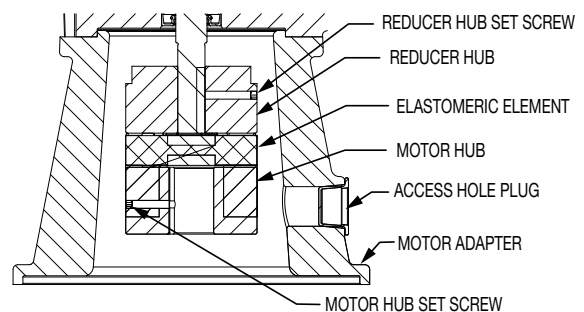
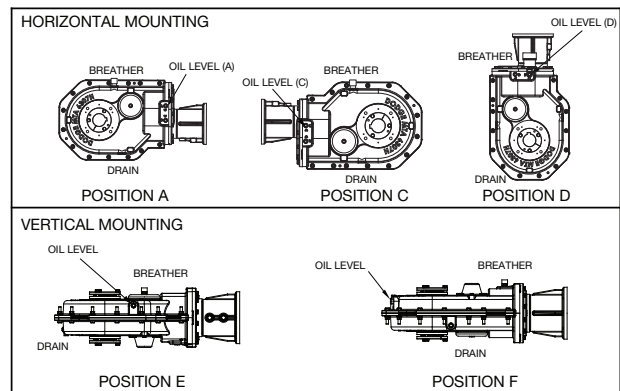

Figure 1 - Motor/Reducer Coupling Assembly
Figure 2 - Mounting Positions, C-Face
2. Determine the running positions of the reducer. Although the reducer may be operated in any position, the preferred mounting position is with the motor in the horizontal position (Position C) as shown in Figure 2. Position B is not recommended. Note that the reducer is supplied with seven plugs: four around the sides for horizontal installations, two plugs on the front face, and one plug on the back face for vertical installations. These plugs must be arranged relative to the running positions as follows:
Horizontal Installations—Due to the many positions the MTA reducer may be oriented, the factory installed positions of the magnetic plug and breather may need to be relocated. The proper location for the magnetic plug is the hole closest to the bottom of the reducer. The filter breather is to be installed in the upper most hole. Of the two remaining plugs on the sides of the reducer, the highest plug is the minimum oil level plug as shown in Figure 2.
① Refer to Figure 2 for mounting positions.
② Oil quantity is approximate. Service with lubricant until oil runs out of oil level hole as indicated per drawings in Figure 2.
③ US measure: 1 quart = 32 fluid ounces = .94646 liters
④ Below 15 RPM output speed, oil level must be adjusted to reach the highest oil level plug. If reducer position is to vary from those shown in Figure 1, either more or less oil may be required. Consult Dodge.
⑤ Position B not shown OR recommended, check with factory.
⑥ Position D breather kit (Part Number 472300) configuration should be used for best lubrication and oil level results.
The running position of the reducer in a horizontal application is not limited to the three positions shown in Figure 2. However, if running position is over 20° in position D or over 5° in position A and C—either way from sketches—the oil level plug cannot be used safely to check the oil level unless during the checking, the torque arm is disconnected and the reducer is swung to within 20° for position D or within 5° for position A and C of the positions shown in Figure 2. Because of the many possible positions of the reducer, it may be necessary or desirable to make special adaptations using the lubrication filling holes furnished along with other standard pipe fittings, stand pipes and oil level gauges as required.